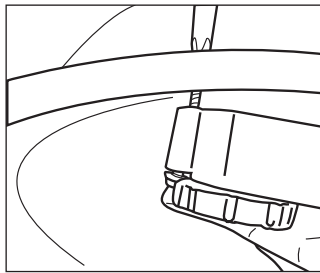

Figure 7
- Tighten the screws (Figure 7).